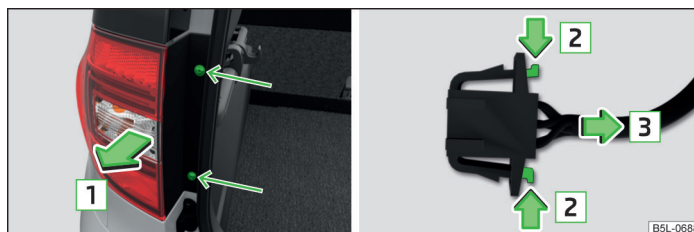

Fig. 202 Remove light / pull out connector
- Unscrew the light » Fig. 202 using the Torx key from the car tool kit » page 220, *Vehicle tool kit*.
- Disconnect the plug connection by pressing the catches in direction of arrow **2** » Fig. 202 and by pulling them in direction of arrow **3**.
- Screw the light with the screws » Fig. 202 into place.